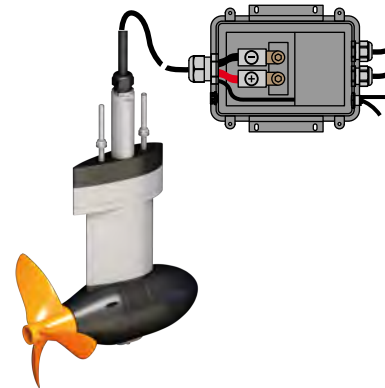

Fig. 48: Cabling
1. Release the screws (1) of the electronics box in order to open it.
3. Connect the two power cables to the respectively marked terminals (red = +, black = -; torque 5 Nm), "**Fig. 48: Cabling**".